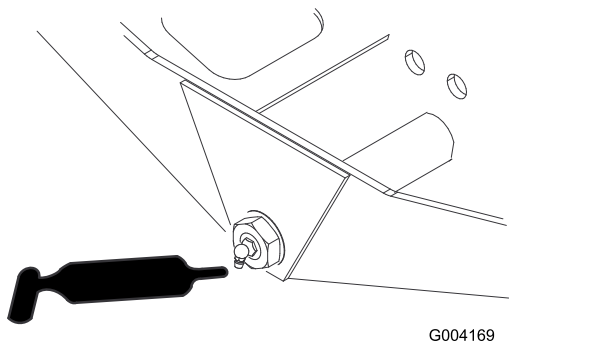

Figure 105
- Axle-steering pivot (1) (Figure 105)